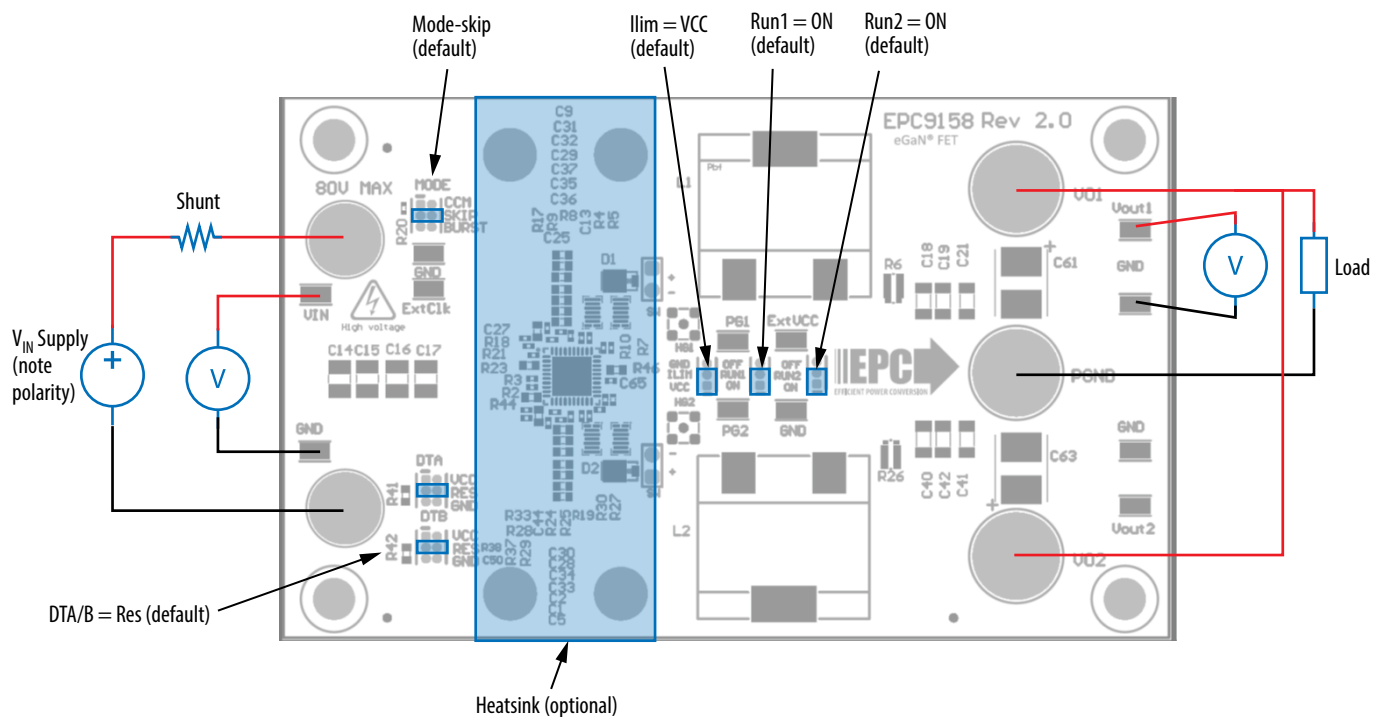

Figure 1: Proper connection set up and default jumper positions
The demonstration board EPC9158 is easy to set up to evaluate the performance of the EPC2218 eGaN FETs and directly drive from the controller IC. Refer to figure 1 for proper connect and measurement setup and follow the procedure below:
1. Check that the jumpers are set to their default locations as shown in figure 1.
3. With power off, connect a load as needed between V_{OUT1} and V_{OUT2} (J4 and J8) and GND (J18) as shown in figure 1.